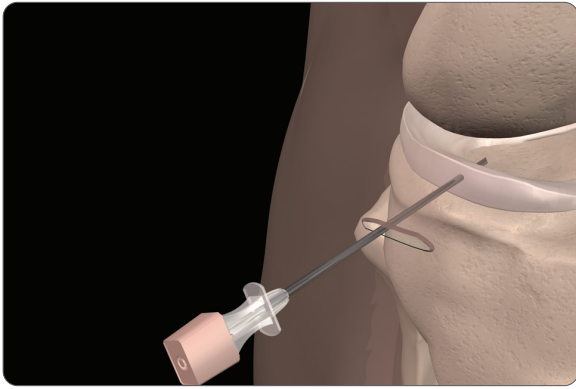

Figure 1
2. With the knee in flexion and internal visualization from the most advantageous portal (medial or lateral), place a straight or curved needle with stylet outside-in across the meniscal tear (**Figure 1**).